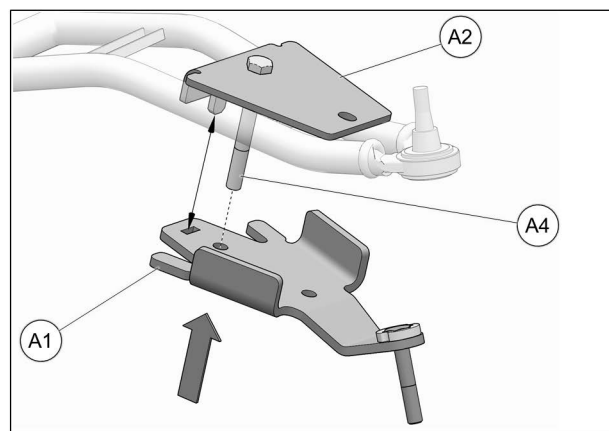

Fig. 20
6. Position bottom part of anchor bracket assembly (**A1**) under lower suspension arm. Push back end of bracket (**A1**) up over bolt (**A4**) already installed in cover (**A2**). Make sure tenon is well inserted in mortise. Refer to Fig. 20